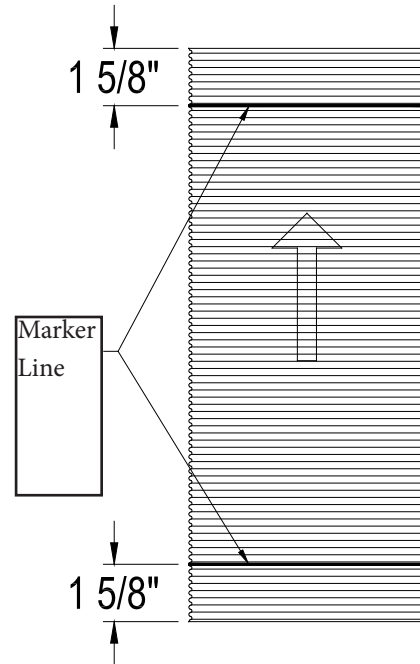

Figure 16 - SecureSeal Flex marker line
1.1. If cutting the liner on the field is required, make sure the cut is square. Make a marker line on both ends of the liner at 1 5/8" from each end. That mark will act as a reference point when the adapters are fully seated onto the flex liner. (**Figure 16**).